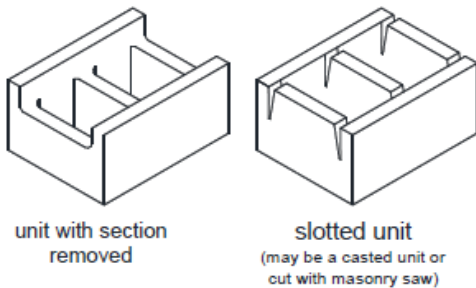
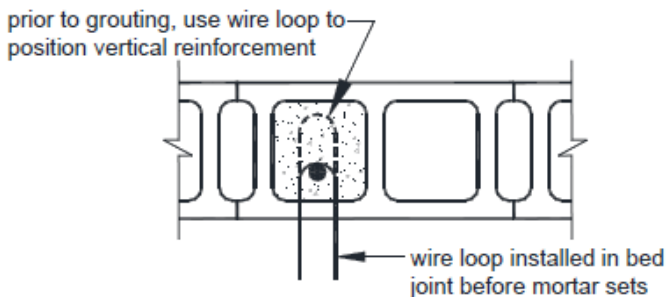
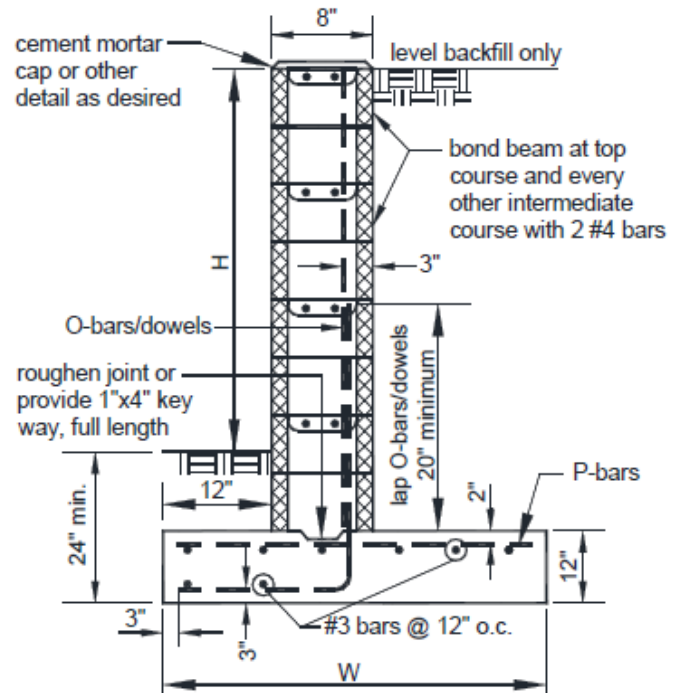

FIGURE 4: BOND BEAM BLOCK TYPES
FIGURE 5: VERTICAL REINFORCEMENT TIE-HOLD DETAIL
FIGURE 3: TYPICAL MASONRY WALL SECTION
**Wall construction.** The construction of a concrete masonry retaining wall shall conform to the dimensions and reinforcing steel requirements shown in Figure 3 and Table 1. O-bars and corresponding dowels may be substituted with a single, full-height bar of equal size and spacing.
**Bond beam and reinforcement.** A bond beam shall be provided at the top course and at intermediate courses below as shown in Figure 3. Bond beams shall be constructed using the block types shown in Figure 4. Vertical and horizontal steel placement shall be in accordance with Figures 5 and 6.